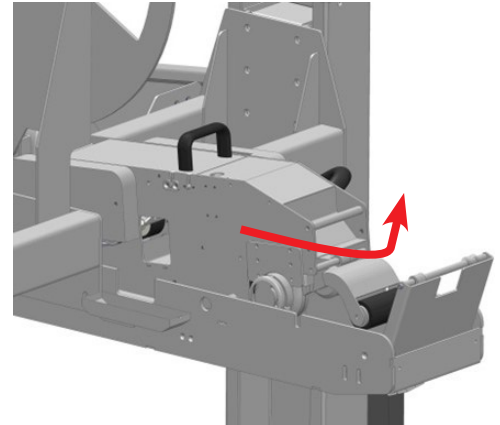

Figure 53: Remove Top Head
6. Pull tape head forward then up to remove from tape head box, (refer to Figure 53).